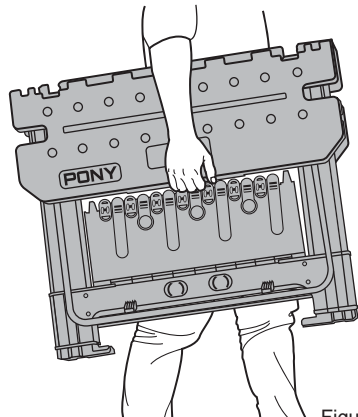

Figure 17
4. Carry the folded WORKTABLE easily. (Figure 17)